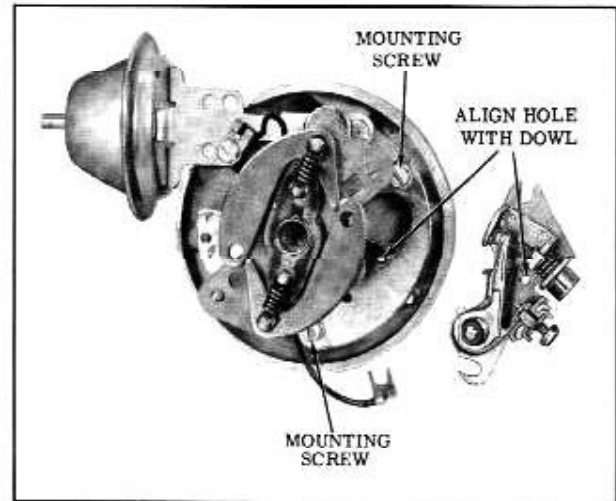

Fig. 13-59 Contact Point Position
2. Insert the right end of the contact set under its mounting screw and pivot the contact set clockwise until contact set will drop onto alignment dowel. (Fig. 13-59)